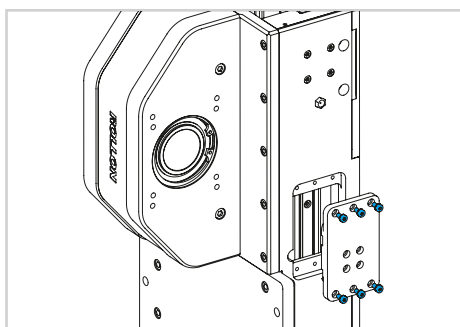

Fig. 22
- 1) Remove the screws and the plates on both sides of the carriage (see Fig. 22).